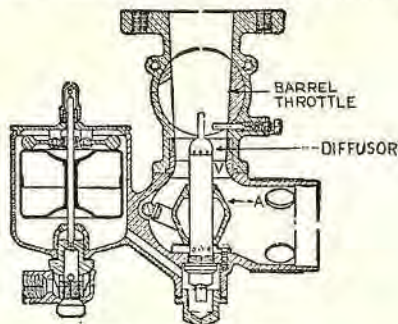

Fig. 57. Claudel carburetor.
In the American type of Claudel shown in Fig. 57, an improvement has been incorporated for strangling the air by means of a sliding air cone (A) which, when in strangling position, fits snugly into the venturi entry (V). This cone is controlled from the dash. This device assures quick starting and warming up in cold weather. The streamline air cone, concentric with the diffuser, may be raised into contact with the venturi, shutting off the air supply and putting the full suction on the diffuser.